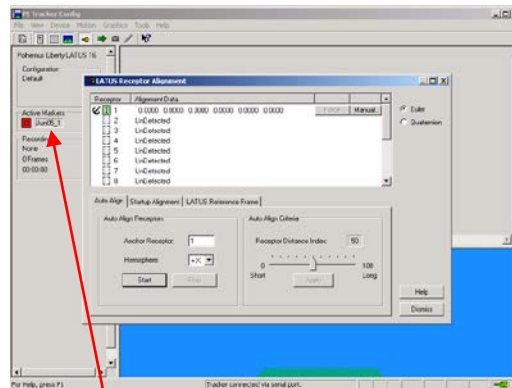

Figure 1-37: Aligned Receptor List
1.5.9 With the test environment set up as described in Step 1.2.5 on page 3, the **Auto Alignment** process will complete almost immediately. Once complete, the receptor list will now appear as shown in Figure 1-37